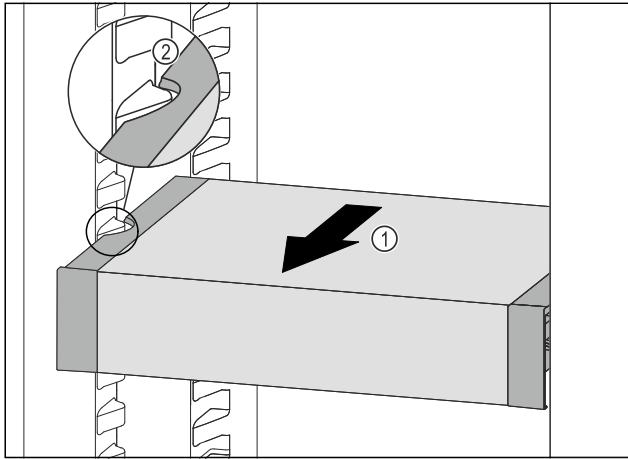

Fig. 68
- ▶ Pull VarioSafe forwards Fig. 68 (1) until the recesses in the side of the VarioSafe are at the level of the support rib in the refrigerator compartment. Fig. 68 (2)